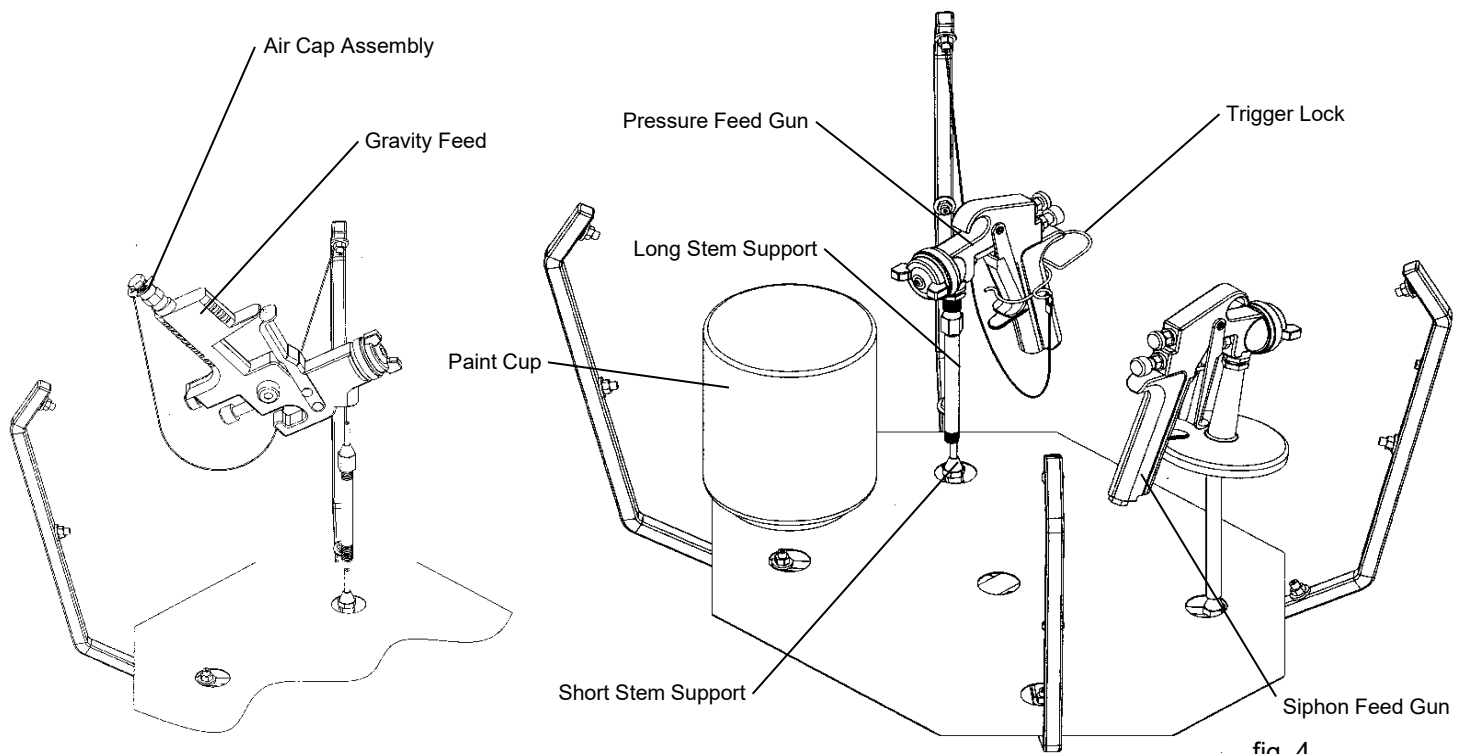

fig. 4
- 4) Lock the gun trigger in the open position by placing the trigger lock around the gun handle and trigger [see fig. 4].
To clean guns not mentioned here, use the long or short stem supports as needed [see Fig. 4]. For questions or adapter kits contact your paint gun washer distributor.